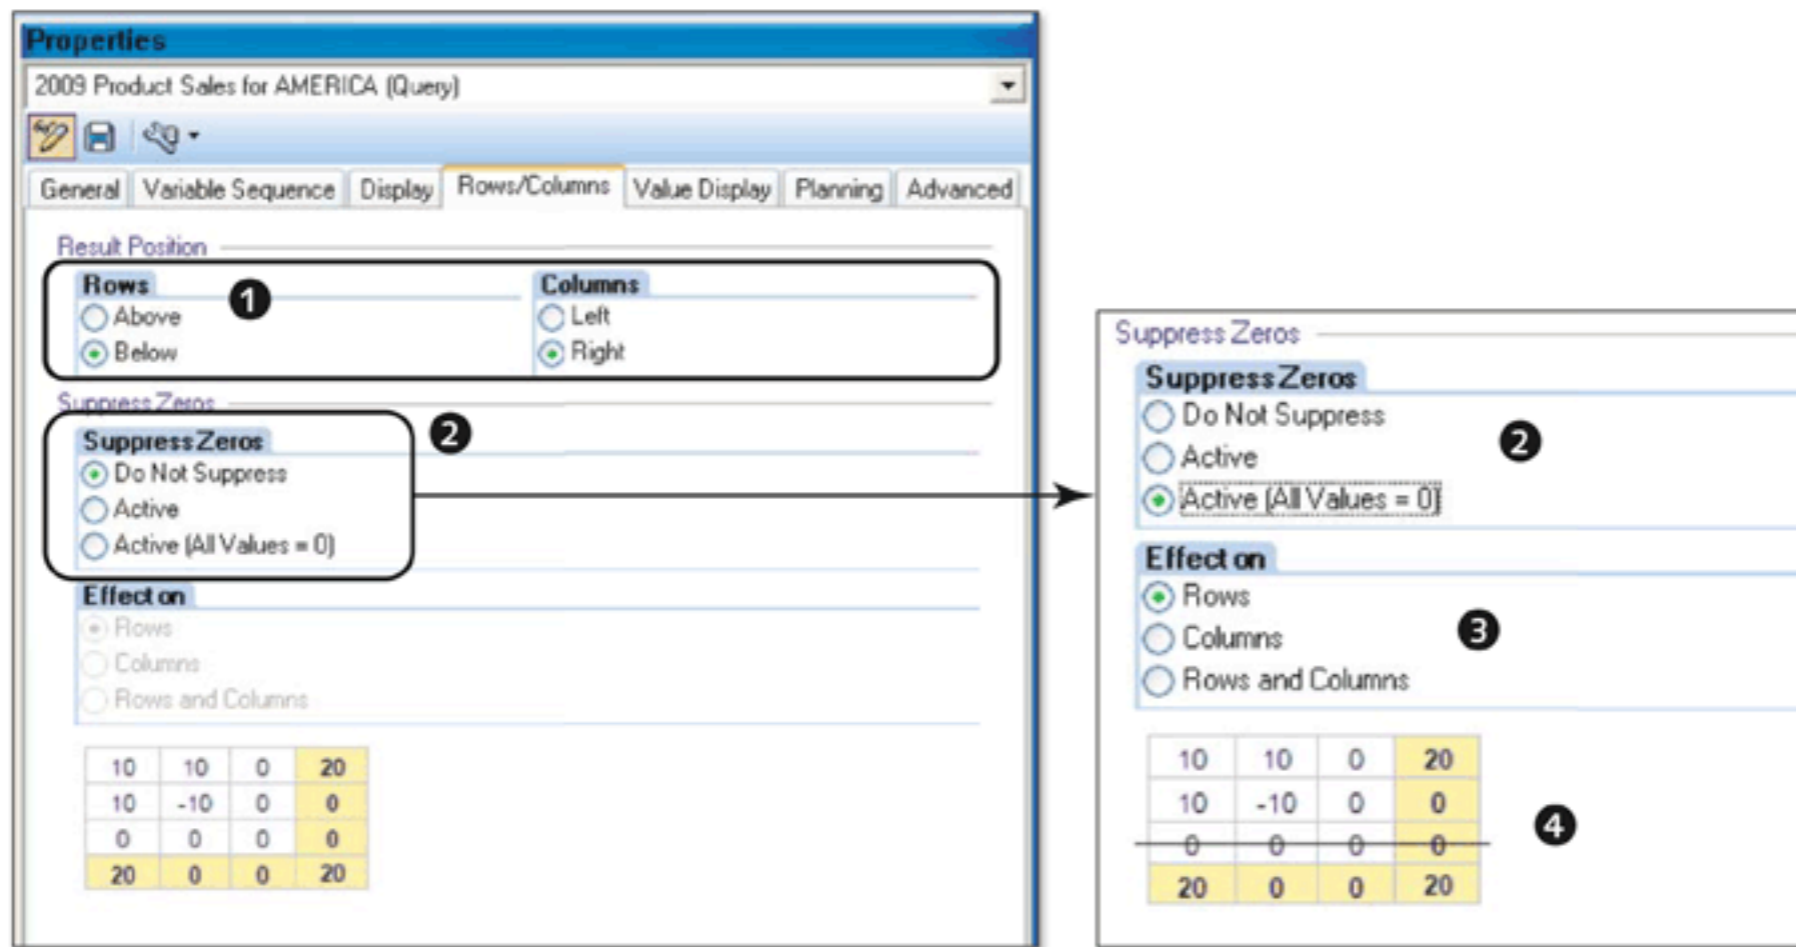

Figure 9.79 Query Properties: Rows/Columns Tab
As the name suggests, this tab allows you to maintain settings related to rows and columns displayed in the query result (see Figure 9.79).
The position of the result rows and result columns in a query is determined based on the settings maintained under the RESULT POSITION section (1 of Figure 9.79). You can also decide to suppress the zero values from the query output in the SUPPRESS ZEROS section (2). Further, you can decide if you want to apply the suppression either to rows or columns or both rows and columns in the EFFECT ON section (3). This tab also displays a preview of the settings chosen on this tab (4).